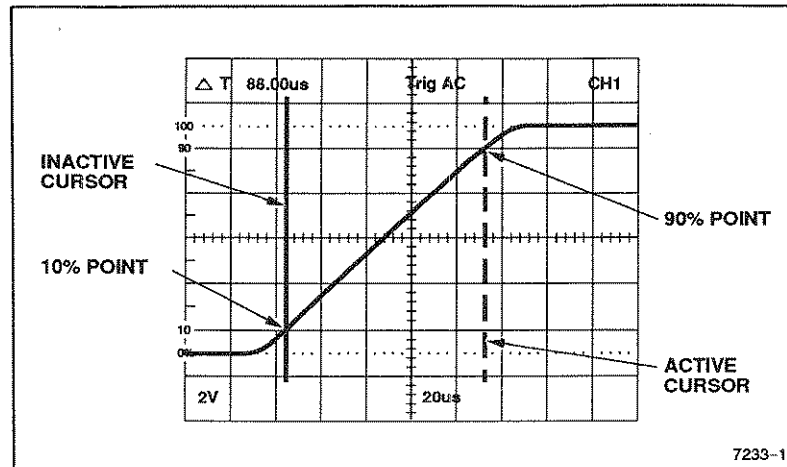

Figure 6-5. Rise Time.
6. Position the cursors to the 10% and 90% points of the waveform using the Cursor Position and Select Active Cursor controls (see Figure 6-5).